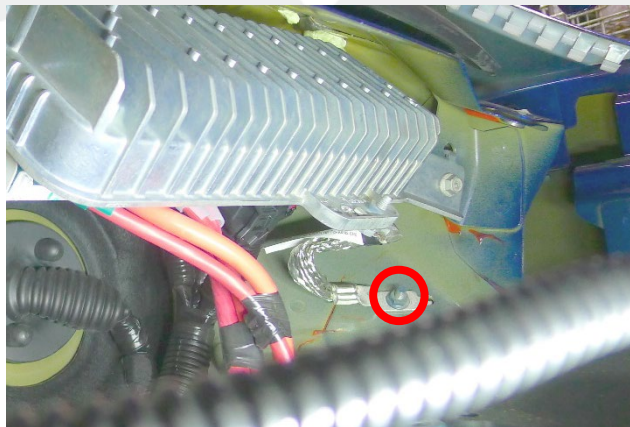

Figure 35
- c. Install the battery controller module ground strap to the stud on the body, and then install the nut that attaches the strap to the body (torque 10 Nm) (Figure 35).